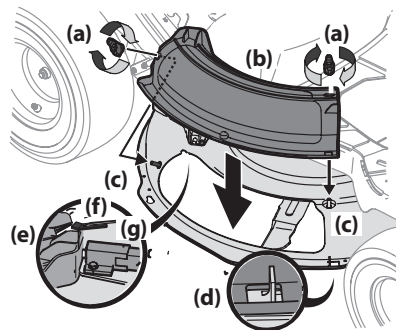

Figure 9
1. Remove the wing knobs (a) installed on the mowing deck and retain for later installation. See Figure 9.
2. Install the mulch plug (b) into the discharge opening on the deck. The rear of the mulch plug (b) should be under the tab (f) on the rear deck bracket (g). The studs (c) on the deck surface will fit through the holes on the upper portion of the mulch plug (b). The small tab (d) on the deck lip area will fit through the square cutout on the lower portion of the mulch plug (b). See Figure 9.